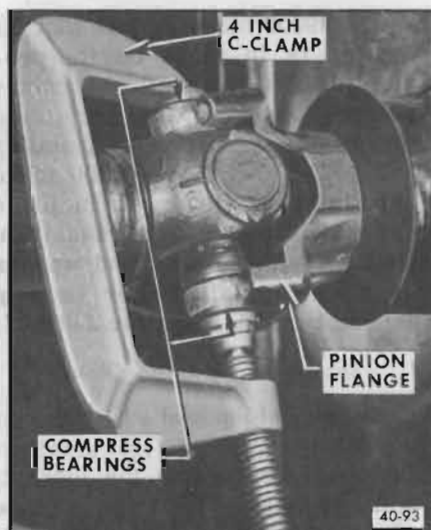

Figure 40-79—Using C-Clamp to Install U-Joint
5. Compress two loose bearings of rear universal joint toward each other using a 4 inch C-clamp. See Figure 40-79. This allows the bearing to seat in the pinion flange without the snap rings gouging the locating surfaces of the pinion flange while entering.